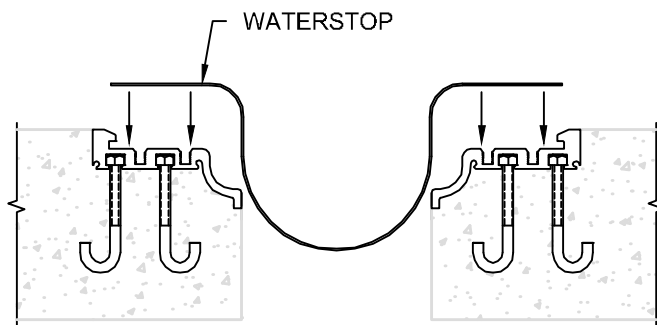

FIGURE 6.1
- 6.2) Once the Waterstop is in the joint, the Top Frame can be used as a template to puncture holes in the Waterstop at locations that require a  $\frac{5}{16}$ " - 18 Flat Head Fastener. For KBCW models the Cover Plate can also be used as a template to puncture holes in the Waterstop against the wall. (See Figures 6.1 & 6.2)